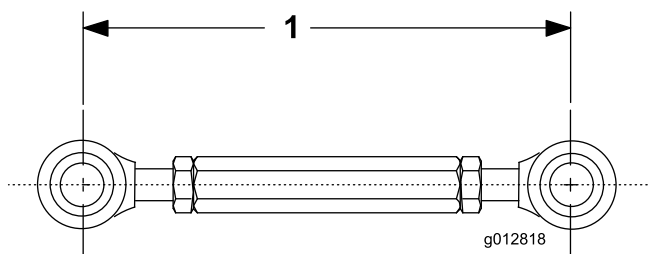

Figure 10
12. Adjust the length of the threaded link to the dimension shown in Figure 10 and tighten the jam nuts.